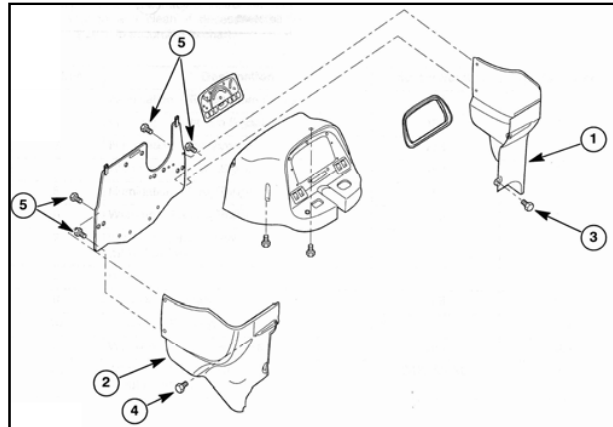

Figure 3-38
2. Remove right rear hood (1) In Figure 3-38, and left rear hood (2) in Figure 3-38, by removing retaining bolts (3), (4), and (5) in Figure 3-38.